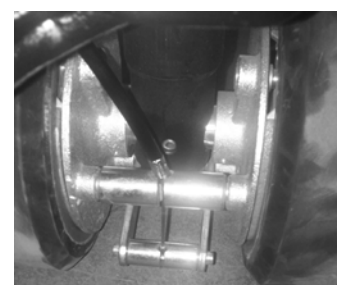

Fig.9: Progressive drive and parking brake
- Turn the pump 90 degree to right side, then pass through the brake cable behind the thrust plate.(Fig.9)
Check that the load does not exceed the loading capacity of the pallet truck. Roll the pallet truck with its forks slowly under the pallet/load until the back end of the fork rests against the load (Fig.9). Shift the operating lever down to the Lifting position. Lift the load by up- and down movements of the tiller arm.